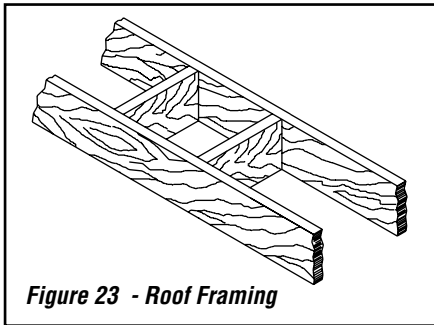

Figure 23 - Roof Framing
1. Cut and frame the holes in the ceiling, floor and roof where the chimney will pass (see **Figure 23**). Use a plumb-bob to line up the center of the holes. The sizes are indicated in **Table 2** for the floor and ceiling holes and **Table 3** (**Page 17**) for the roof holes.